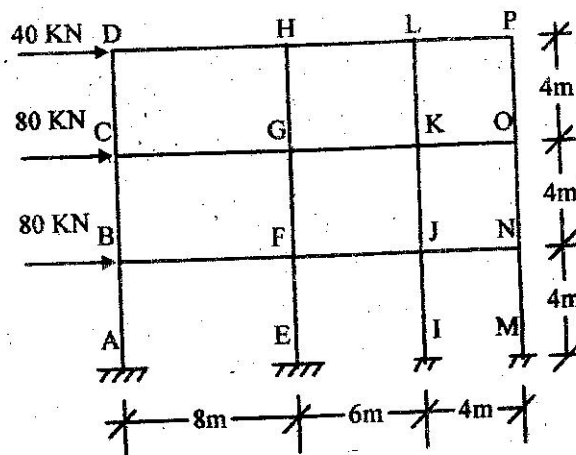

Figure-12
- (b) Using portal method of analysis, analyse the portal frame subjected to horizontal loads as shown in the figure-12 below : 8